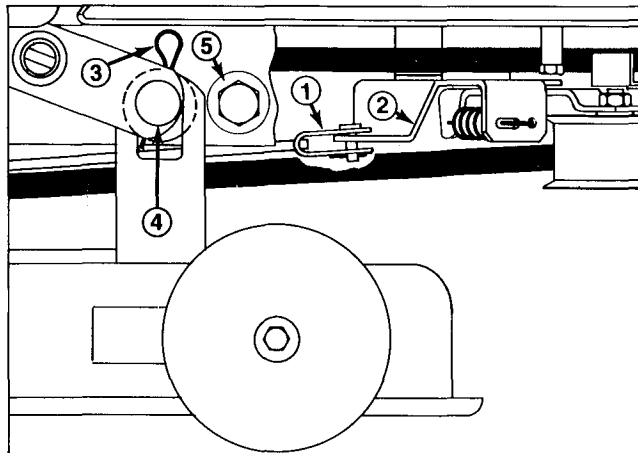

Figure 18
Check cutter blade every time rider is tipped on end. If lock nut holding blade is loose, tighten it to 45-60 ft-lb. If blade or sail (Fig. 18) at end of blade is worn, eroded, or cracked, replace the blade. Replace the blade if it is bent or out-of-balance. Always use genuine TORO replacement blades to assure safety and optimum performance. NEVER USE WILL-FIT REPLACEMENT BLADES.
9. Remove cotter pin and clevis pin securing deck brake rod to idler bracket (Fig. 18).
10. Remove (2) hairpin cotters and washers retaining mower housing to mounting pins (Fig. 18). Grasp mower housing and move it to the side until housing slides off pins, then forward to allow front mounts to drop.
5. Remove capscrews, retainers and locknuts securing deck stops to each side of mower frame (Fig. 18). Slide mower housing rearward to release belt tension.